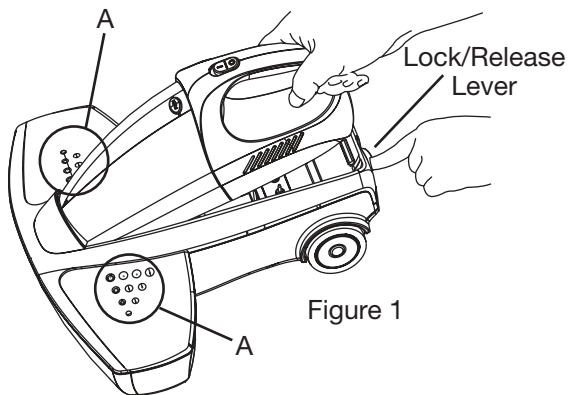

Figure 1
1. Attach the vacuum cleaner to the base unit. Insert it into the base unit and then press the rear down firmly. Press lever down when docking vacuum. Then pull up until lever clicks **twice** to lock (see Figure 1).
2. To remove the cleaner from the base, press the lever at the rear of the vacuum base (see Figure 1).